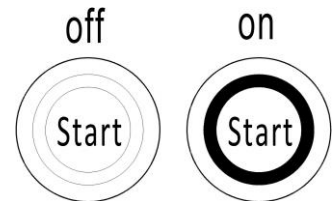

Fig.8: Button switch
Pull out the emergency button (Fig.1, 20), Press the button switch, and a green light will appear on the switch (Fig.8), type the password on pin-code panel and press ✓ button to start the truck. Truck can also be activated with RFID access card.
PS E12N: Always lower the forks fully. Press the button, green LED ring is off (Fig.8), and press the emergency switch (20).